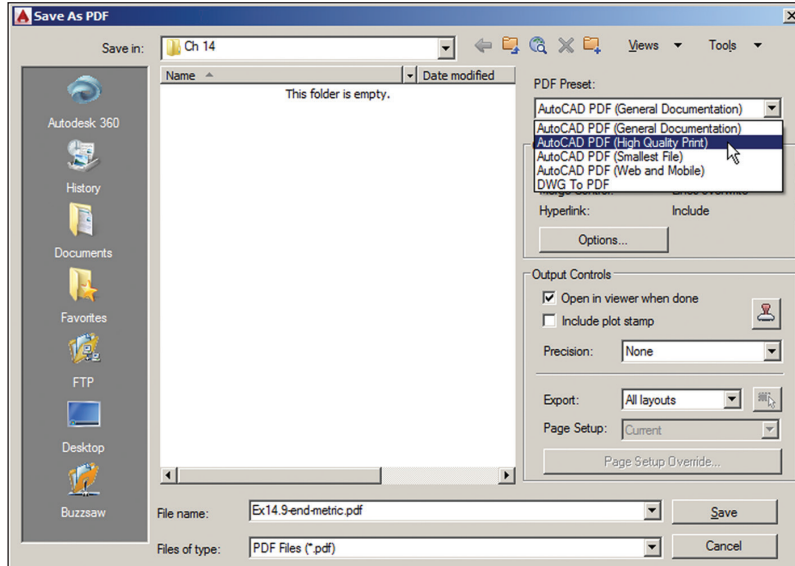

FIGURE 14.26 Choosing a PDF preset prior to saving
3. Click the drop-down arrow under the Export icon. Select PDF from the menu that appears. Before saving the file, select AutoCAD PDF (High Quality Print) from the PDF Preset drop-down menu (see Figure 14.26). Verify that Open In Viewer When Done is selected in the Output Controls area.